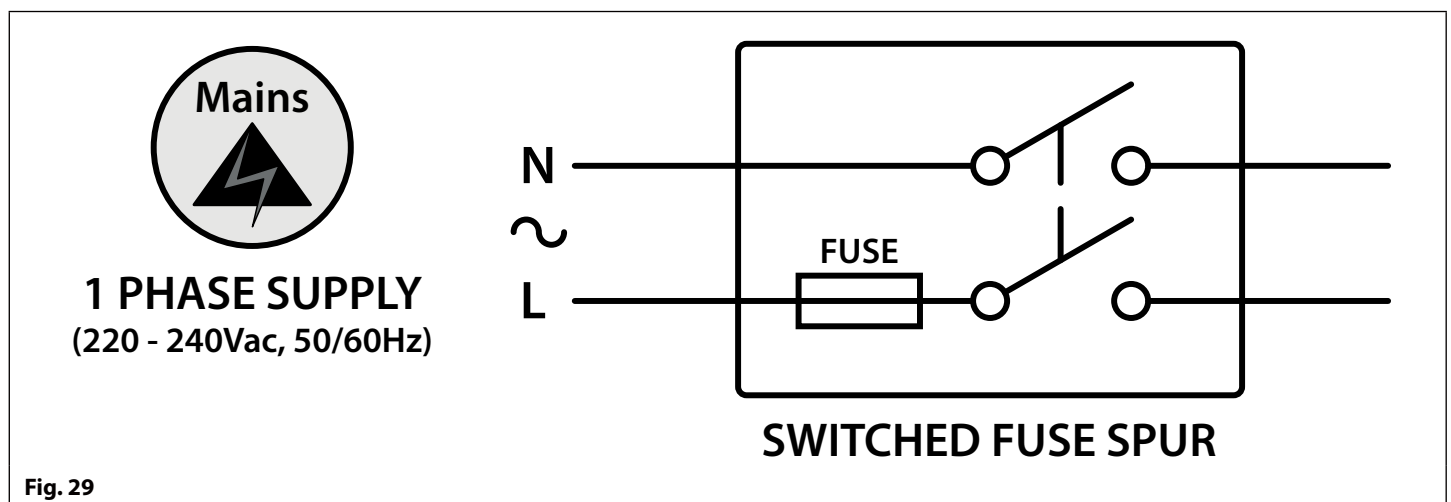

Fig. 29
- Connecting the system to the mains through an all-pole circuit breaker (refer to **Fig.29**) which shall have contact separation of at least 3mm in each pole and shall disconnect all poles simultaneously.